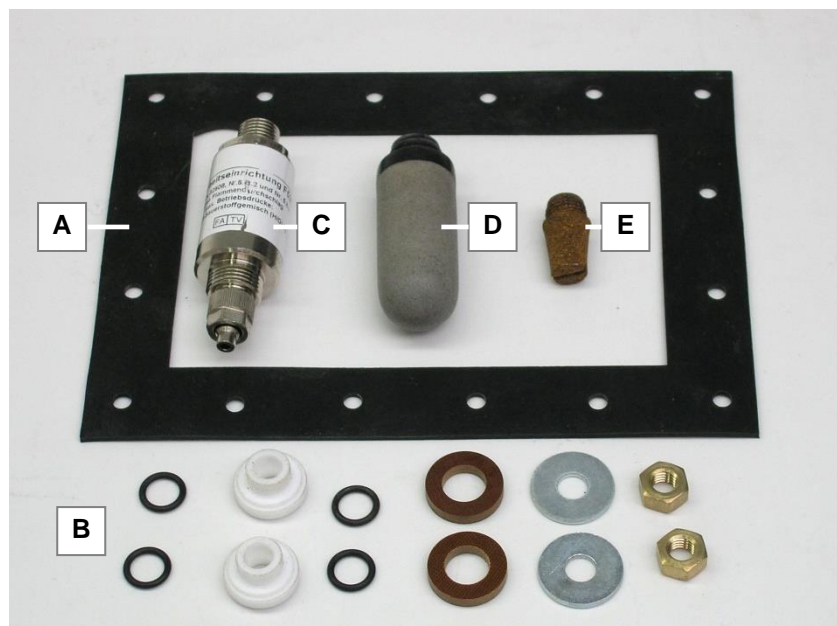

Fig. 7 Standard replacement kit for unit service
- Replace the reactor sealing (fig. 7.A).
- Replace the set of washers of the electrodes (B).
- Replace the check valve (C).
- Replace the filter candle in the dryer glass (D).
- Replace the sinter piece in the vaporizer glass (E).